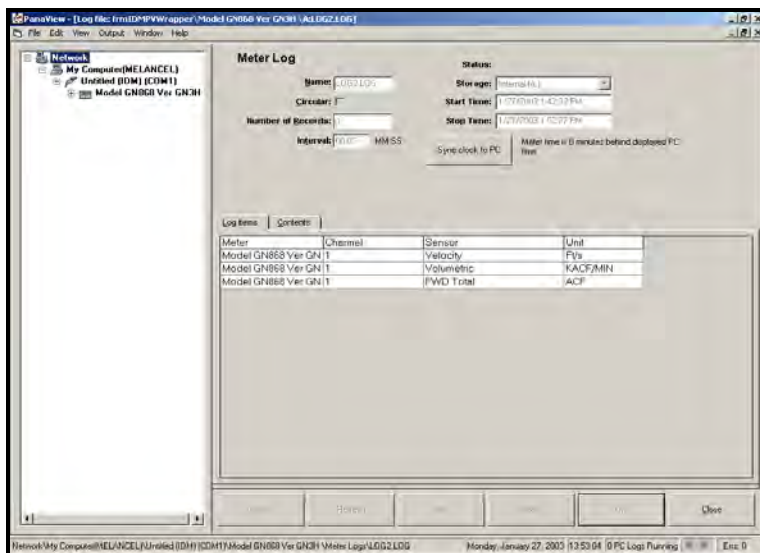

Figure 74: The Meter Log Window
3. At the “Meter Log” window shown in Figure 74, the following log specifications may be entered:
- Click on the “*Log Items*” tab (see Figure 74 on page 92) for a list of the parameters specified for logging.
- Click on the “*Contents*” tab (see Figure 74 on page 92) for a list of all the data points logged to date for the parameter currently highlighted on the “*Log Items*” tab.